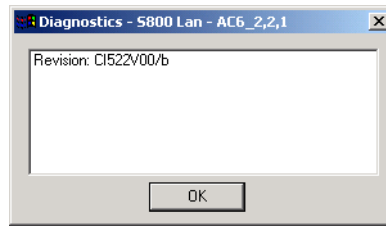

Figure 68. CI520/CI522 Diagnostics Display
- Get Diagnostics** Select this to get the diagnostics dialog, Figure 68.
If the station is the CI520/CI522 type CTL, selecting that station icon will bring up the CI520/CI522 Diagnostics Display, Figure 68.
Select an I/O Device display target to get a S800 Device Display. Use the context menu to move up to the LAN display. Select the CI810 (FCI) box to get the CI810 Diagnostics Display (similar to Figure 68).